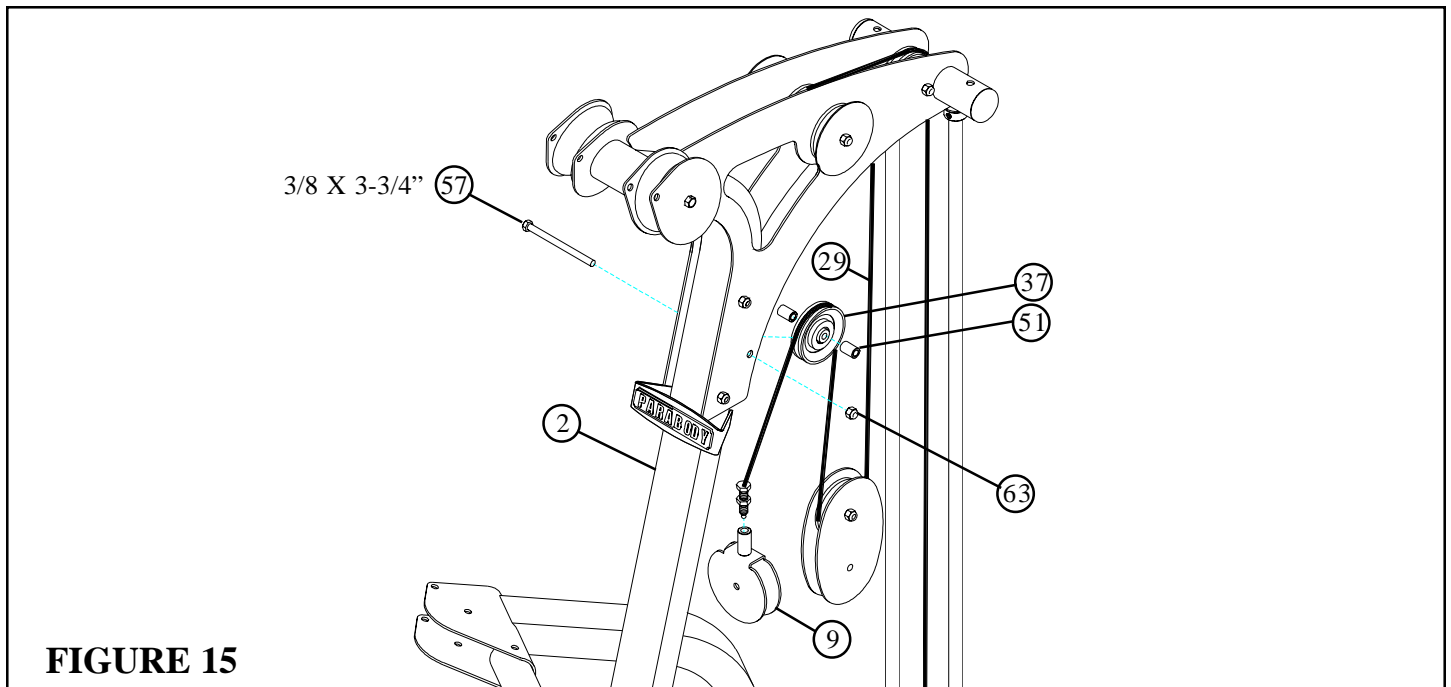

FIGURE 15
- Assemble one 3-1/2" PULLEY (37) to the BOOM PLATES (14 & 15) using one 3/8 X 3-3/4" BOLT (57), two 3/8 X 1" SPACERS (51) and one 3/8" LOCK NUT (63). See FIGURE 15. (Note: Loop the WEIGHT STACK CABLE around the PULLEY prior to assembling to the BOOM PLATES.)
- Screw the short threaded end of the WEIGHT STACK CABLE (29) into the end of the PULLEY BRACKET (9) .See FIGURE 15.
- Route the BOOM CABLE (32) over the V-GROOVE PULLEY (39) and the 3-1/2" PULLEY (37) on the LEFT BOOM PLATE (15) and over the 3-1/2" PULLEY (37) on the RIGHT BOOM PLATE (14) and over the V-GROOVE PULLEY (39) as shown in STEP 16.
- **SECURELY** assemble two 2" NYLON SPACERS (56) to the V-PULLEY PLATES (12) and the BOOM PLATES (14 & 15) using two 3/8 X 2-3/4" BOLTS (55) and two 3/8" LOCK NUTS (63). See FIGURE 15.
- Assemble one 3-1/2" PULLEY (37) to the PULLEY BRACKET (9) using one 3/8 X 1-3/4" BOLT (53) and one 3/8" LOCK NUT (63) (Note: Loop the BOOM CABLE around the PULLEY prior to assembling the PULLEY BRACKET.)